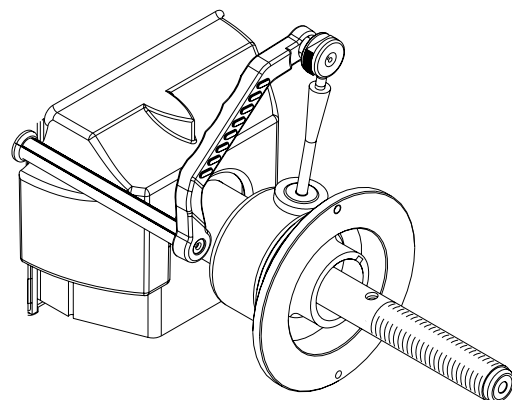

Figure 44 - Touch end of Calibration Weight resting on Bell Collar
8. Locate the Calibration Weight. Place the calibration weight with the large end oriented on the bell collar. Extend the SAPE arm outward and rotate the extension to just touch the end of the calibration weight as shown in Figure 44. A tone will sound and the display will change to **"BAC" "H" "POS"**. Return the SAPE arm to the home position.